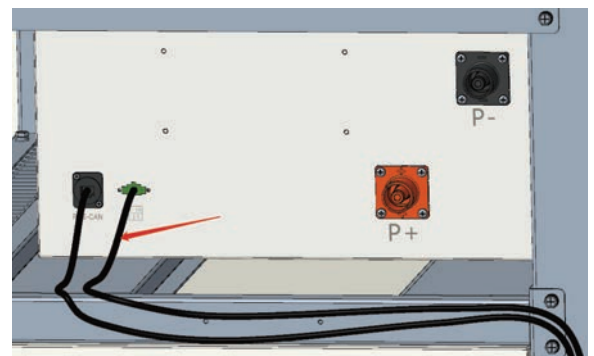

Figure 2.12
(8) Main control box AC220V auxiliary power supply wiring. Lock the AC plug of the main control box, and connect and lock the PCS AC power supply N and L (Figure 2.12).